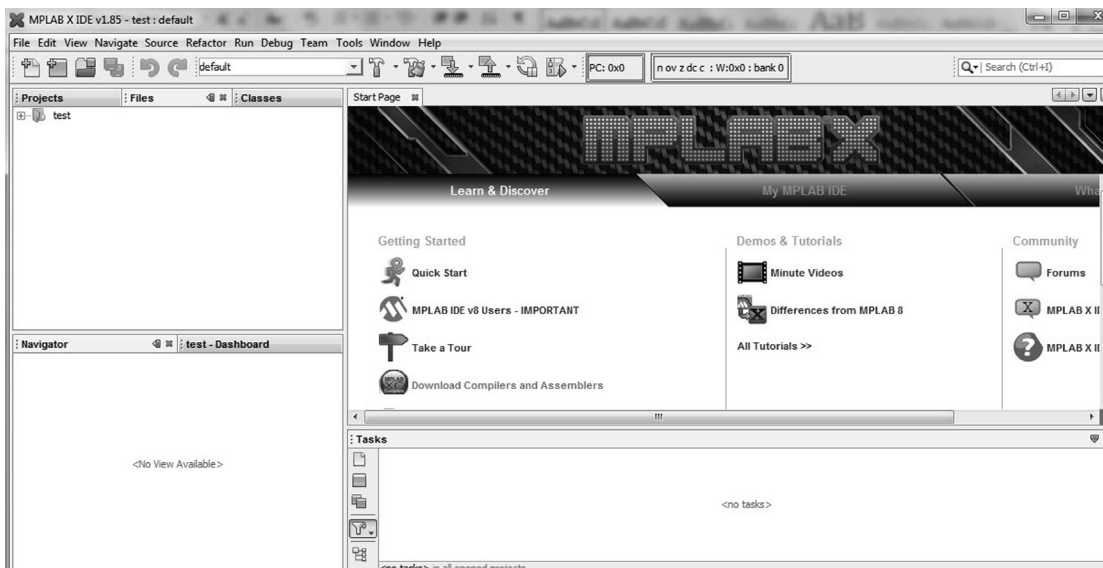

Figure 3.3: Opening Window of MPLAB X IDE.
Step 1. Double click the icon to start the MPLAB X IDE. You should see the opening window as in Figure 3.3.